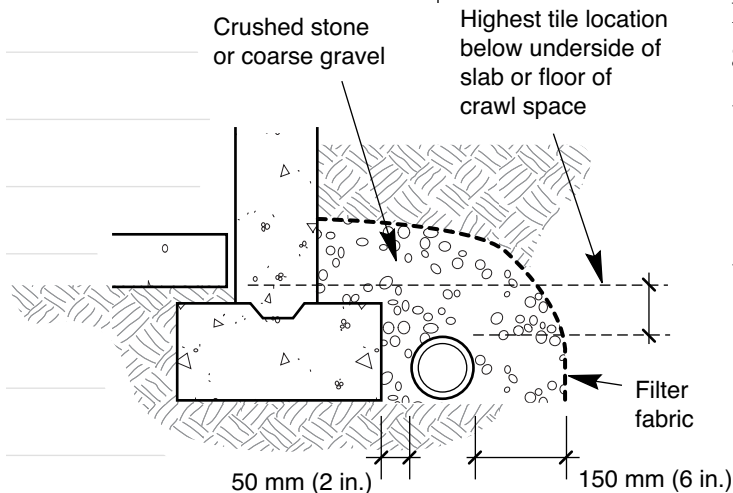

FIGURE 23
- ◆ Set the tile at the bottom of the footing on undisturbed soil or compacted soil. Ensure that the entire drain tile is located below the underside of the basement slab or floor of the crawl space. Cover the drain tile with a minimum of 150 mm (6 in.) of granular material. To prevent the accumulation of silt and fines in the tile, use a filter fabric or glass fibre batt to cover the granular material or the tile itself (see Figure 23).